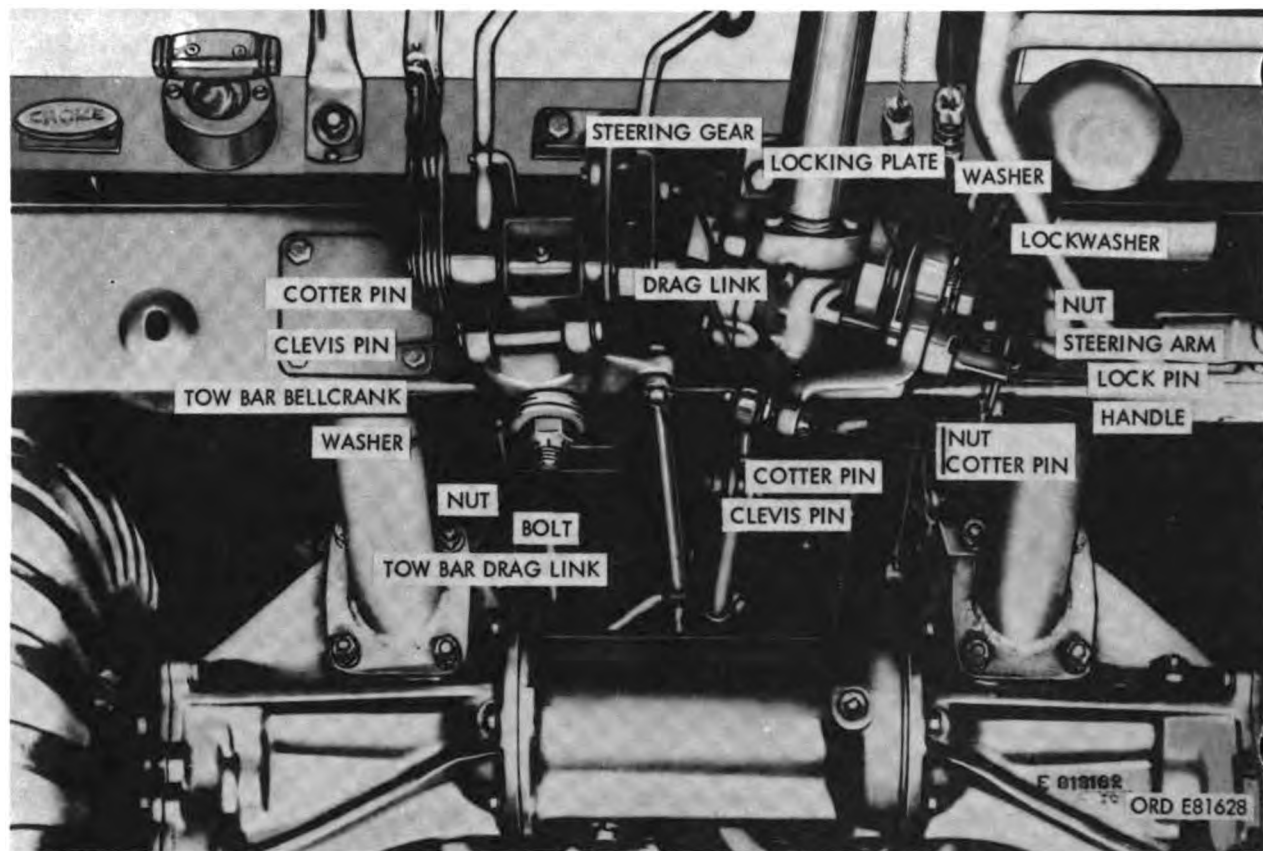
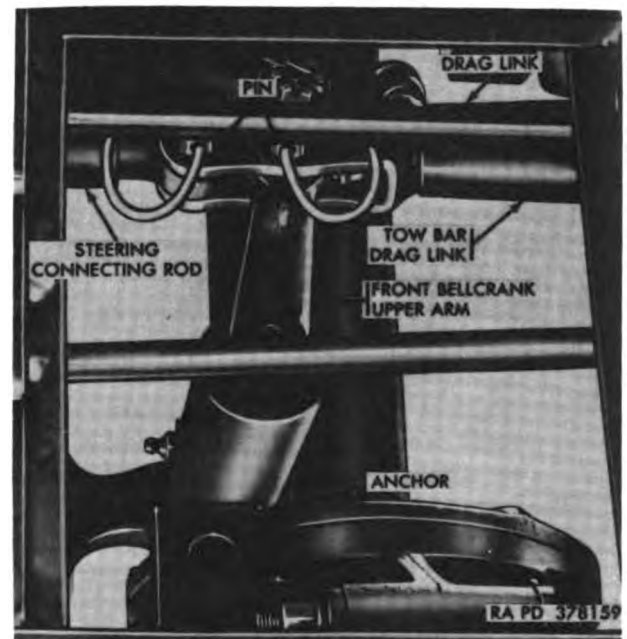

Figure 2-86. Steering gear and arm showing lockpin pulled out to disconnected steering arm from locking plate.
Figure 2-94. Disconnect-points for draglinks.
- (2) Check to see that lockpin (fig. 2-86) in steering arm is pulled out to disconnect steering gear, and locked with handle in vertical position.
- (3) Check to see that steering connecting rod is installed between anchor on right frame tube and rear bellcrank upper arm.
- (4) Clean dirt from all four tires and chalk center of treads. Rotate wheels and scribe the centerline of the tread, using a suitable marking tool.
- (5) Loosen the clamp bolts on tie rods and draglink.
- (6) Place a straightedge against the outside of the front and rear tires on one side of the vehicle, and adjust the rear tie rod on this side to give the rear wheel 1/8-inch toe-in as measured between the straightedge
*a. Removal.* Remove the two pins connecting tow bar draglink (fig. 2-94) to steering
connecting link and bellcrank upper arm. Remove cotter pin (fig. 2-86) and clevis pin connecting front end of tow bar draglink (fig. 2-86) to tow bar bellcrank (fig. 2-86), and remove tow bar draglink.
*b. Installation.* Position tow bar draglink (fig. 2-84) between tow bar bellcrank (fig. 2-86) and inner hole on front bellcrank upper arm (fig. 2-94). Secure link to tow bar bellcrank with clevis pin and cotter pin (fig. 2-86). Secure link to bellcrank upper arm with special clevis pin (fig. 2-94) with finger ring. Position front end of steering connecting link at end hole in front bellcrank upper arm, and secure with special clevis pin with finger ring.
### 2-71. Tow Bar Bellcrank (Figure 2-86)
**2-72. Steering Arm (Figure 2-86.)**
- (1) Position trunnion support on each side of steering gear assembly but do not tighten the two slotted nuts at this time.
- (2) Temporarily install shaft, steering wheel, and steering column tube so that serrations on steering shaft coupling inside tube, mesh with serrations on tube shaft. Turn steering wheel until center position is located, and with wheel held at this point, press locking plate onto serrations of lever shaft with notch aligned with pin. Remove shaft, steering column, and steering wheel as an assembly.
- (3) Position steering gear (fig. 2-86) on front of frame support front cross-